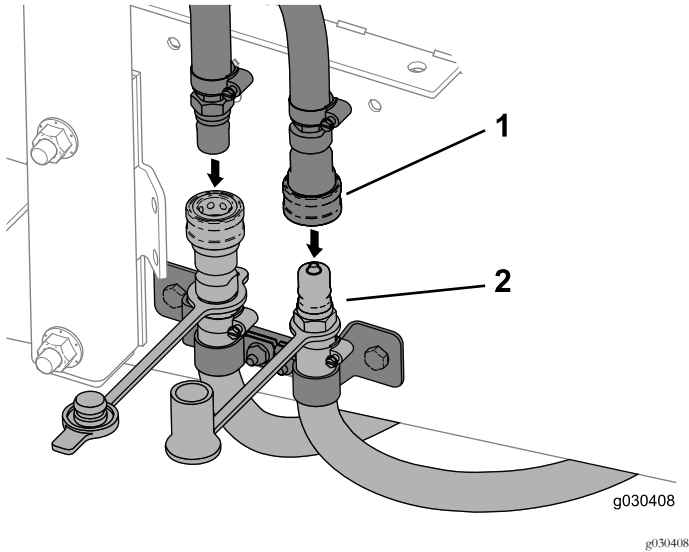

**Figure 40**
3. Arrange 1 R-clamp around each of the hoses (Figure 40).
4. Secure the R-clamp using the carriage bolt (1/4 x 3/4 inch) and flange nut (Figure 40).